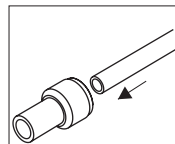

Fig. 4
- 1) Press the tubing into the quick connector (the correctly assembled tubing is cartridgeed 1,5 cm deep into the quick connector) (fig. 4).